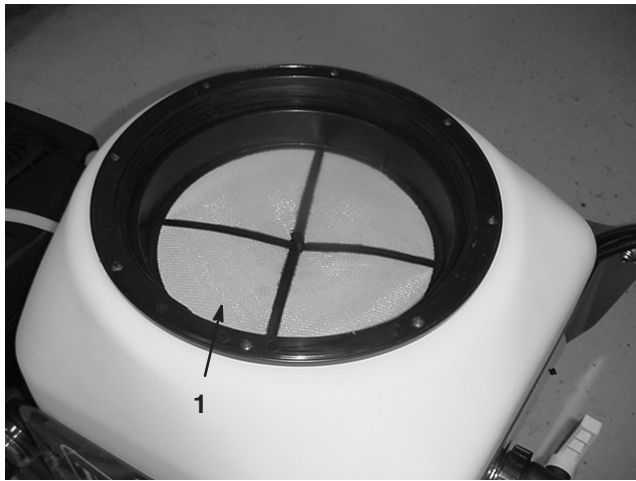

Figure 28
1. Remove the paint tank strainer (Fig. 28) and clean with water.